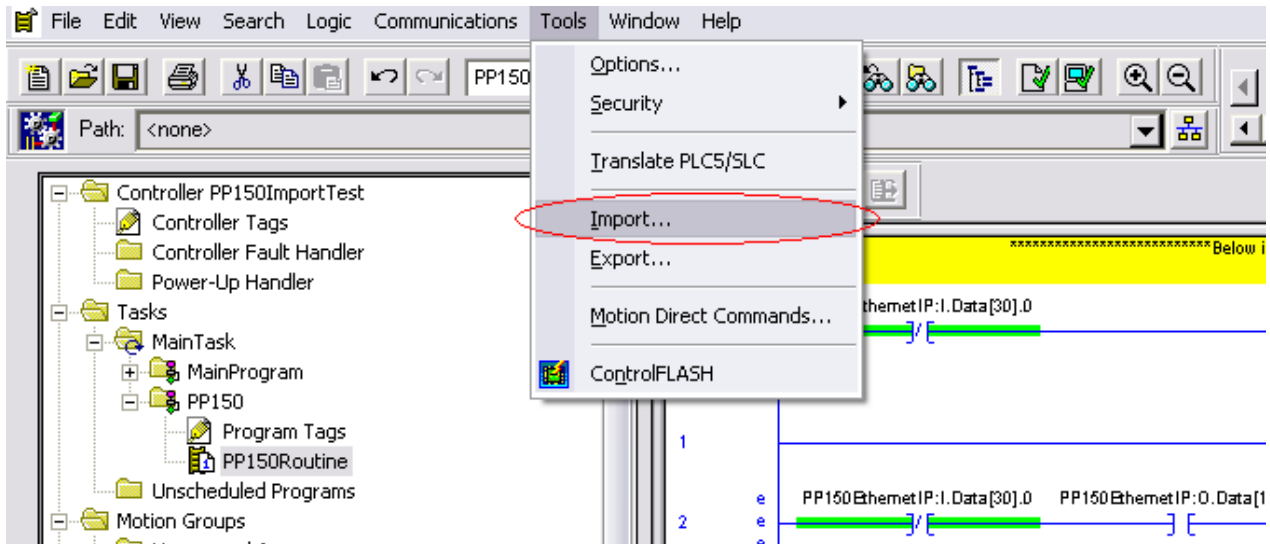

FIGURE 10.16
- R. IMPORT PROGRAM TAGS BY SELECTING TOOLS, THEN "IMPORT..." (SEE EXAMPLE BELOW...FIGURE 10.16)